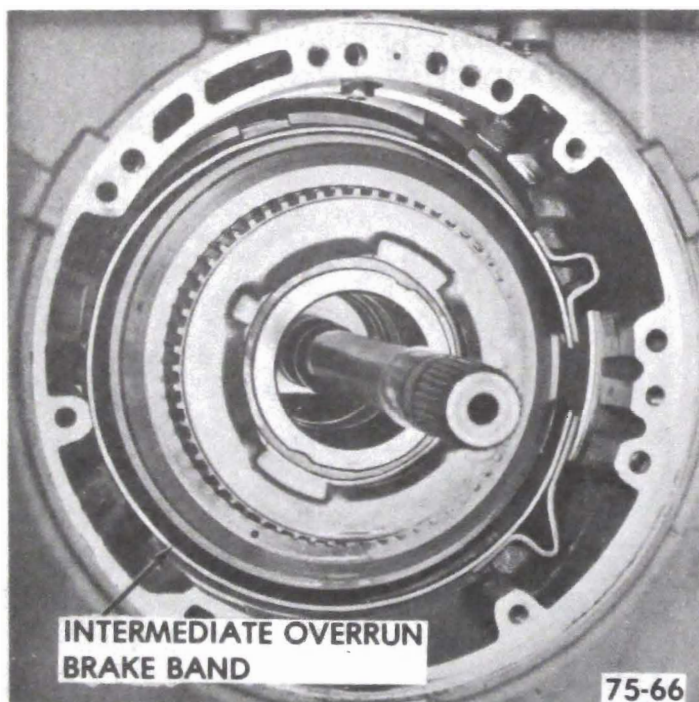

Figure 75-244
1. Install intermediate clutch overrun brake band. See Figure 75-244.